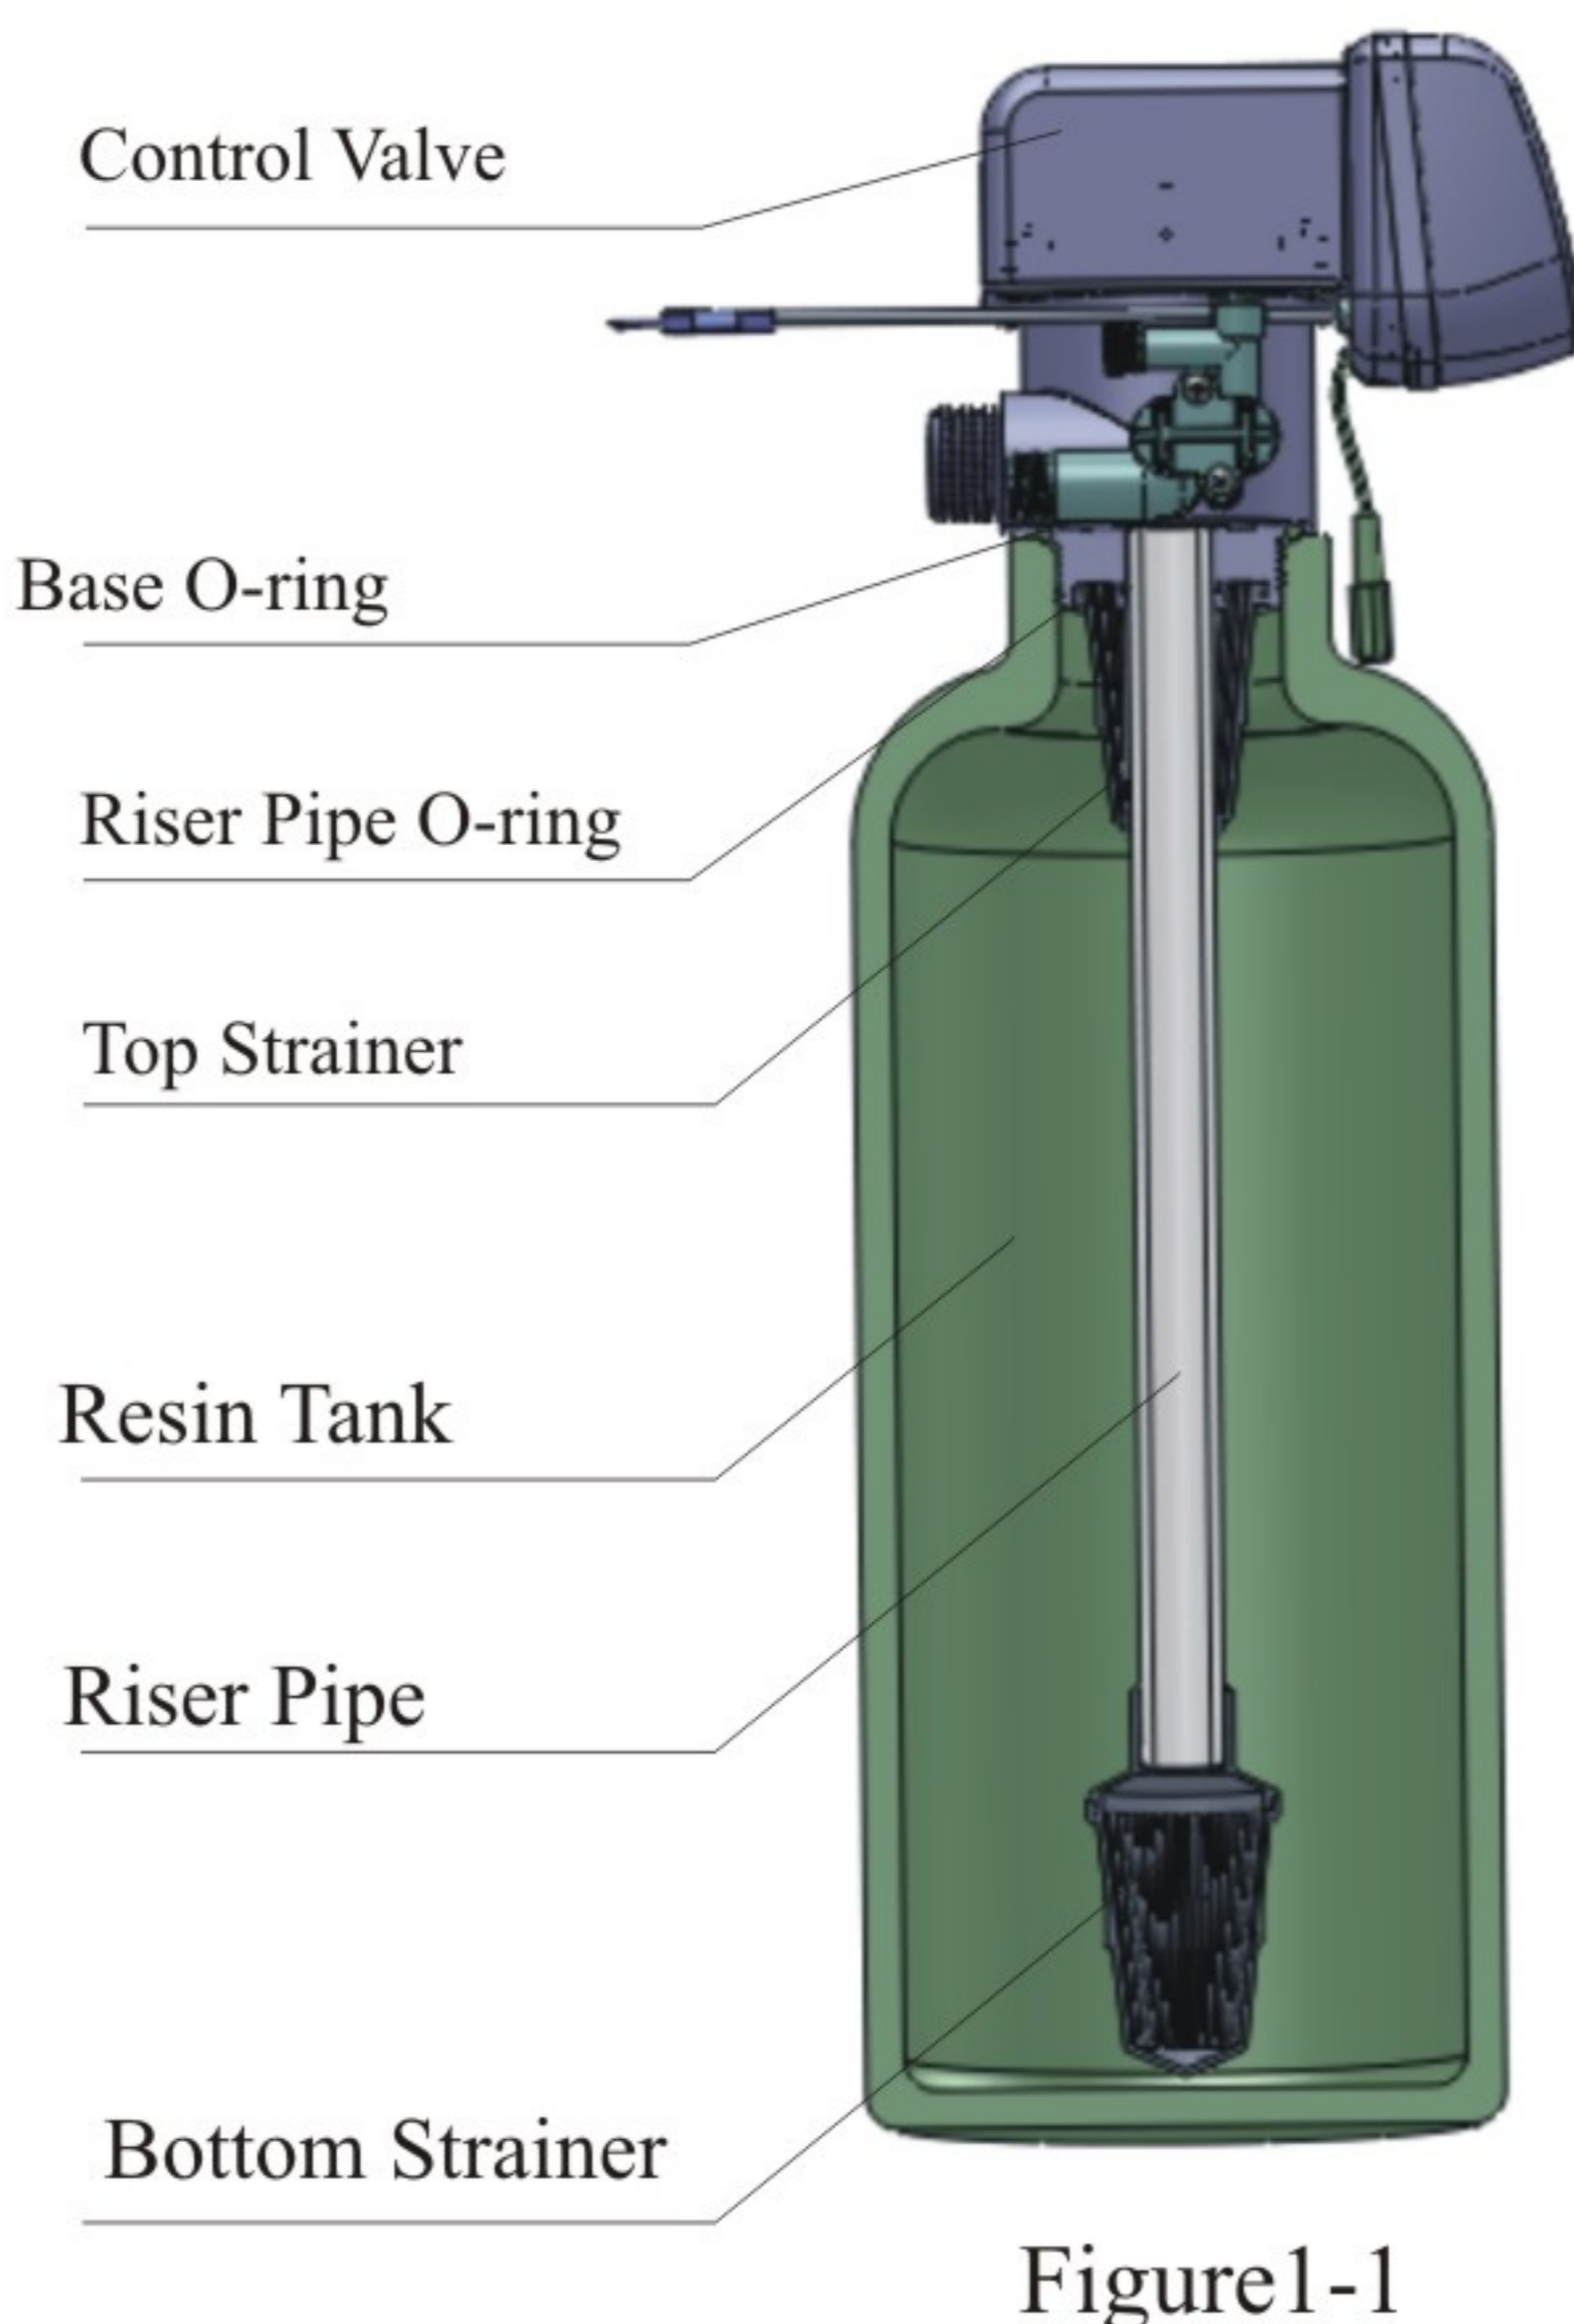

Figure1-1
- ① The filter or softener should be located as close as to drain.
- ② Ensure the unit is installed in enough space for operating and maintenance.
- ③ Brine tank needs to be close to softener.
- ④ The unit should be kept away the heater, and not be exposed outdoor. Sunshine or rain will cause the system damage.
- ⑤ Avoid installing the system in circumstance of acid/alkaline, magnetic or strong vibration, because above factors will cause the system disorder.
- ⑥ Do not install the filter or softener, drain pipeline or overflow pipe in circumstance where temperature may drop below 5°C, or above 50°C.
- ⑦ Install the system in the place where with the minimum loss in case of water leakage.
① Install control valve
a. As the Figure 1-1 shows, select the riser pipe with 26.7mm OD, glue the riser pipe to the bottom strainer and put it into the mineral tank, cut off the exceeding pipe out of tank top opening and make external rounding.